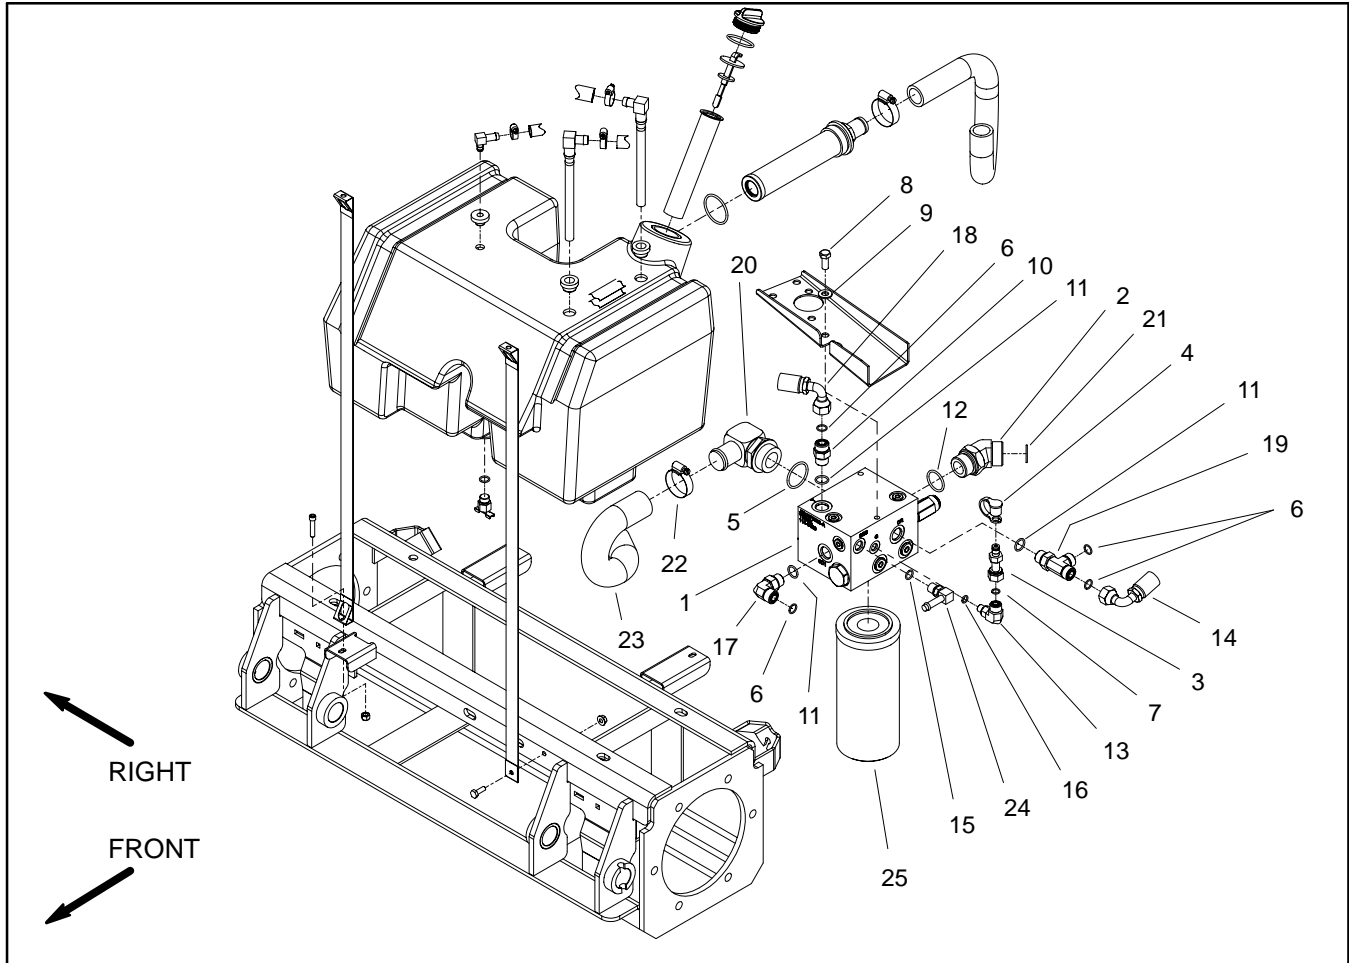

Figure 61
Removal (Fig. 61)
4. Remove filter manifold from the frame using Figure 61 as guide.
Installation (Fig. 61)
2. Install filter manifold to the frame using Figure 61 as guide.